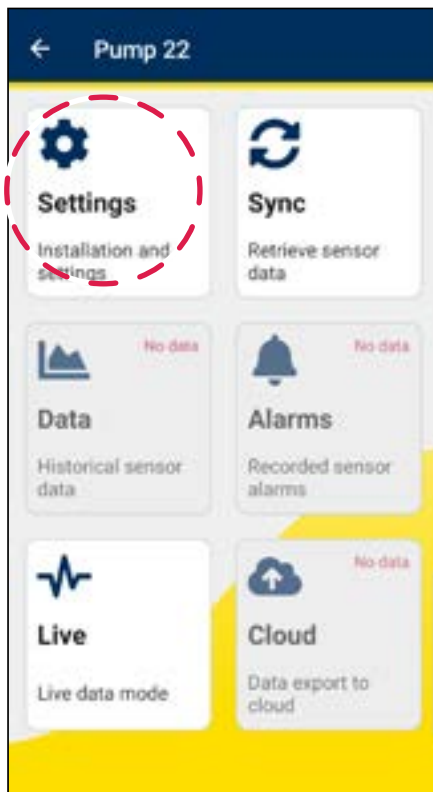

Figure 6
1. Select **Settings** (see figure 6).